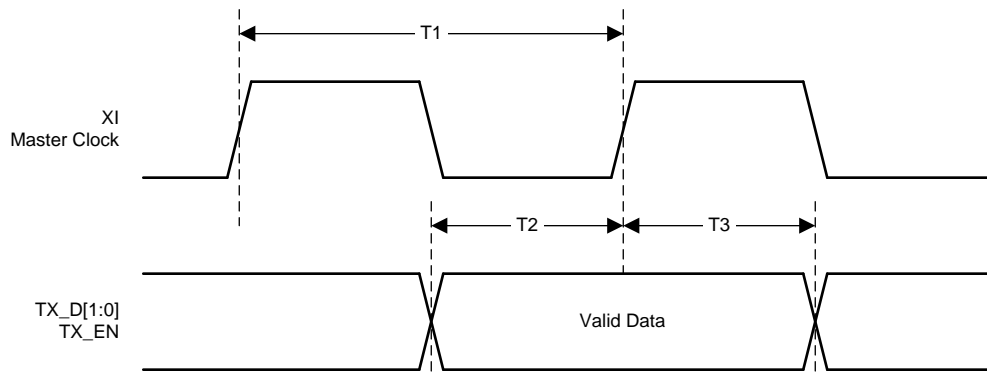

图 8. RMII Transmit Timing
(1) Ensured by production test, characterization or design.
(2) See 图 8.